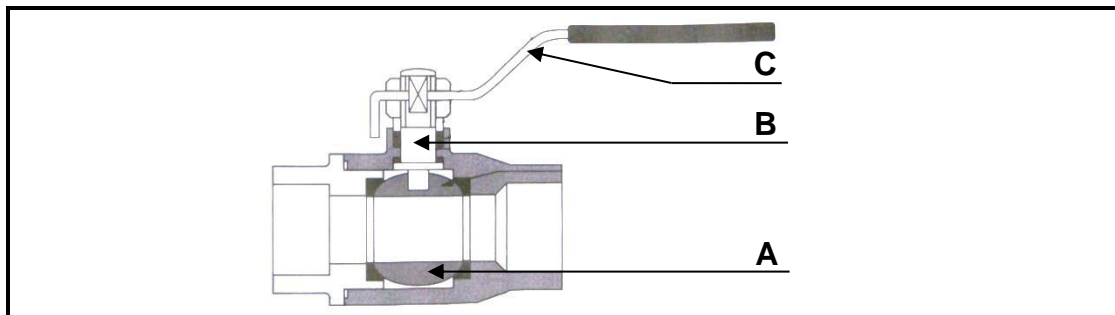

FIGURE 4.2
4.2 Answer the following questions with regard to the valve in FIGURE 4.2.
4.2.1 Name the valve in FIGURE 4.2. (1)